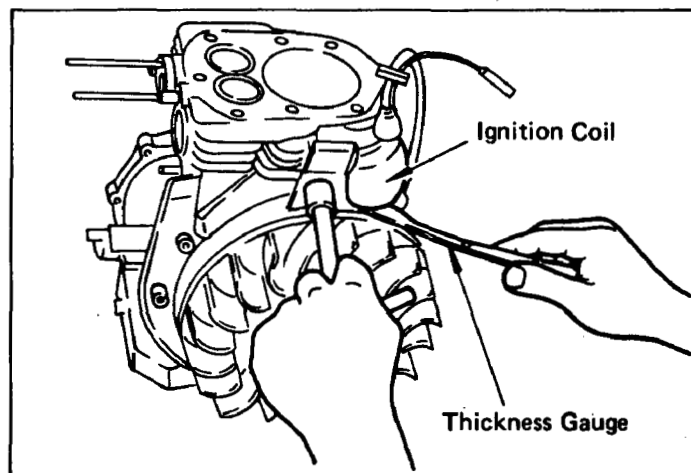

Fig. 38
- 2) After measuring the air gap between the ignition coil and flywheel, retighten the ignition coil. (See Fig. 38.)